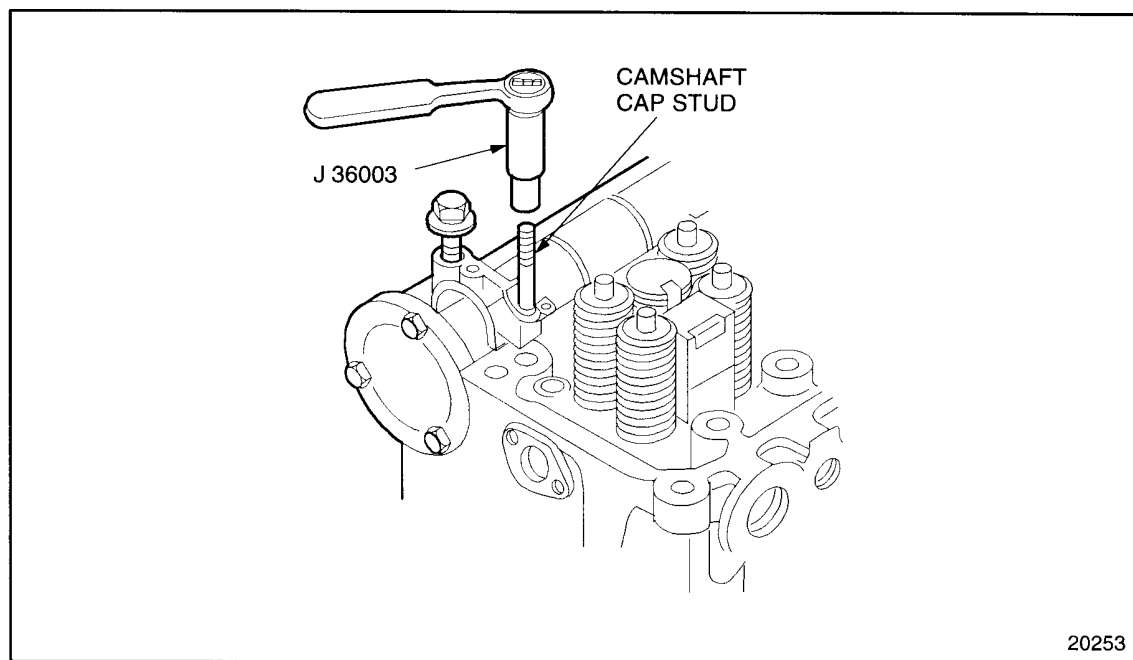

Figure 1-302 Camshaft Cap Stud Removal
14. Remove the remaining seven camshaft cap bolts. Remove the No. 1 and 5 studs using socket tool J 36003-A. See Figure 1-302.